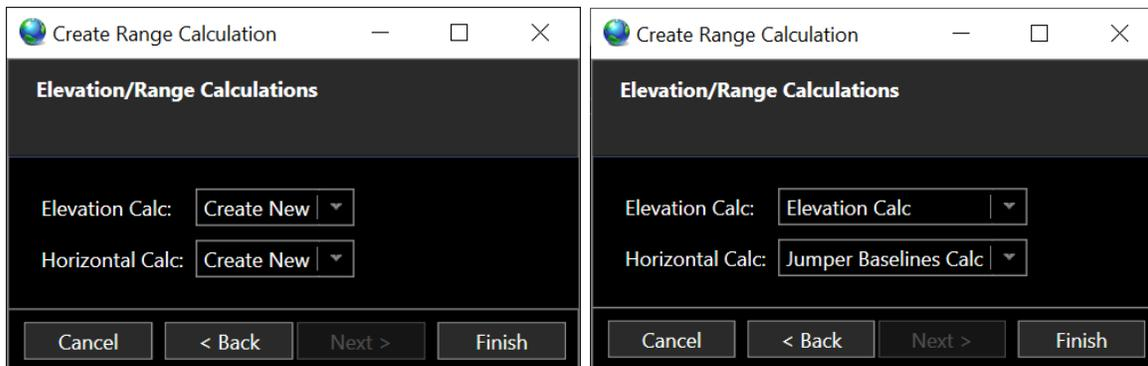

FIGURE 109 CREATE RANGE CALCULATION – ELEVATION/RANGE CALCULATIONS PAGE
7. Click Next to open the Elevation/Range Calculations page, see Figure 109.